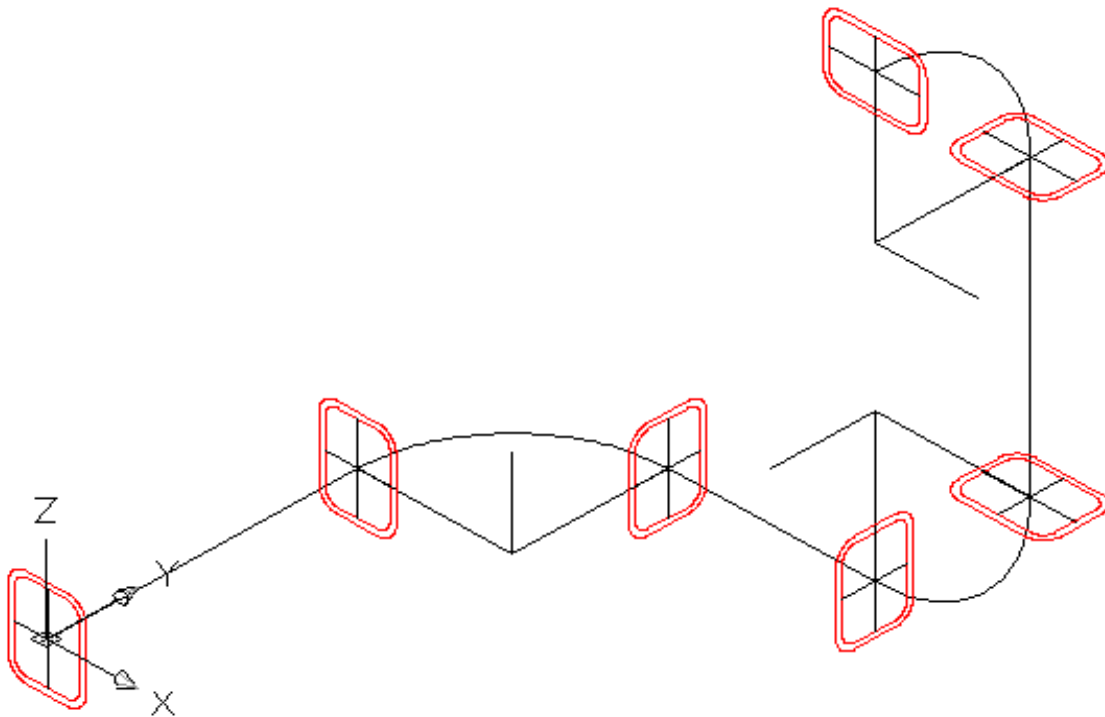

Figure Step 10
Step 10 Copy the objects onto the construction lines. Ensure the midpoint of the object (the intersections of the lines) aligns to the endpoints of the lines and arcs as shown in Figure Step 10.